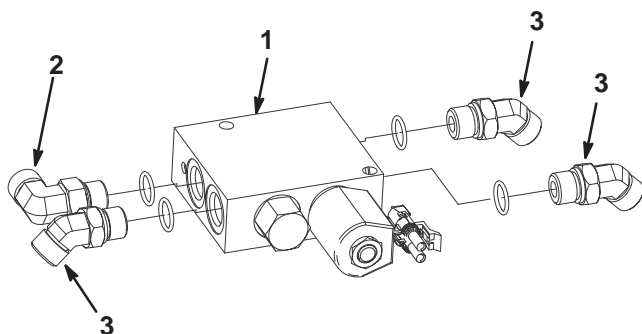

Figure 4
12. Install a 90° hydraulic fitting into the “A” port of the selector valve. Position the fitting as shown in figure 4.
13. Install (3) 45° hydraulic fittings into the remaining ports in the selector valve. Position the fittings as shown in figure 4.